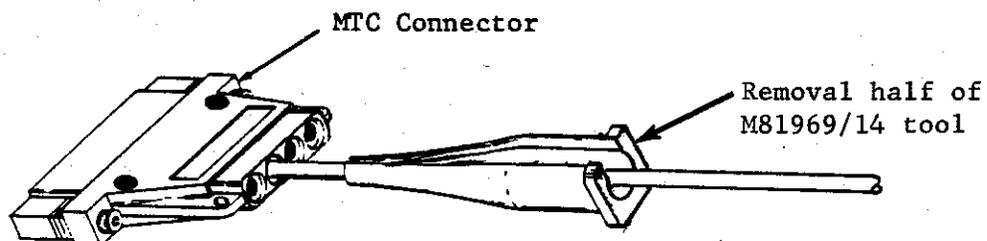

Figure 5-4. Removal Tool Installed on Cable to be Removed
3. Install the removal end of the insertion/removal tool around the cable of the contact to be removed (Figure 5-4).